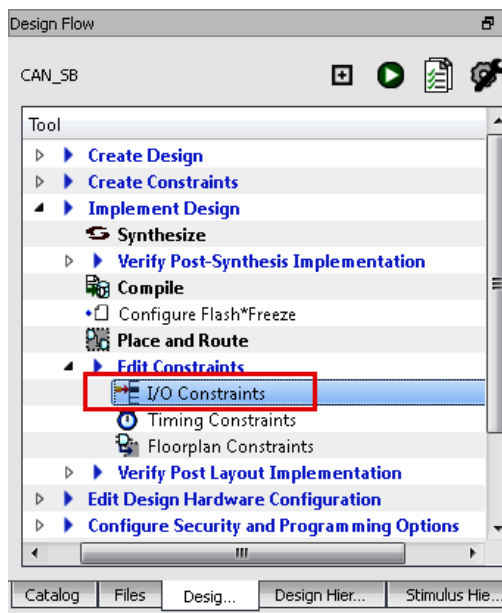

Figure 14 • I/O Constraints Editor
1. Click the **Design Flow** tab and double-click the **I/O Constraints** in the **Design Flow** window as shown in Figure 14. The **I/O Editor** window is displayed when Synthesize and Compile stages are complete.